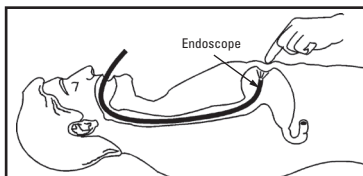

Figure 1
- Introduce the endoscope and insufflate the stomach (Figure 1).